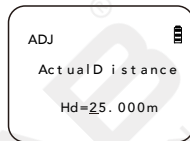
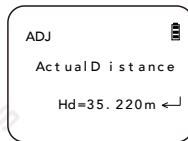

fig. 37
fig. 38
- Input the distance data you get from process (1), press the SET button to select digit underline place, press Meas. to input 0-9 (fig. 37). Input the numbers one by one. When "Enter shows up on screen (fig. 38), press the SET button, and it will mention for you to aim at the staff.